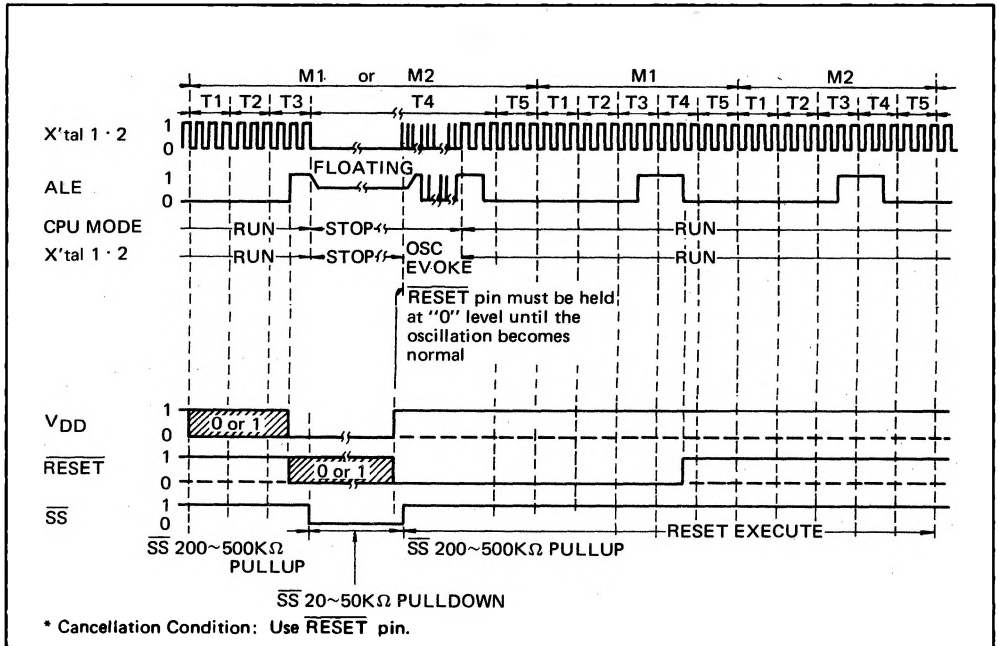

Fig. 4-5 Hardware Power-Down Mode Timing Chart
- (1) Use of RESET pin
- The clock generator is activated and the CPU started up when a "1" level is applied to the  $V_{DD}$  pin while a "0" level is input to the RESET pin. If this "0" level is kept applied to the RESET pin until oscillation become stable, the CPU will be reset and will start executing from address 0. The timing chart is outlined in Fig. 4-5.
- (2) Use of the INT pin during external interrupt enabled status (i.e. following execution of ENI instruction)